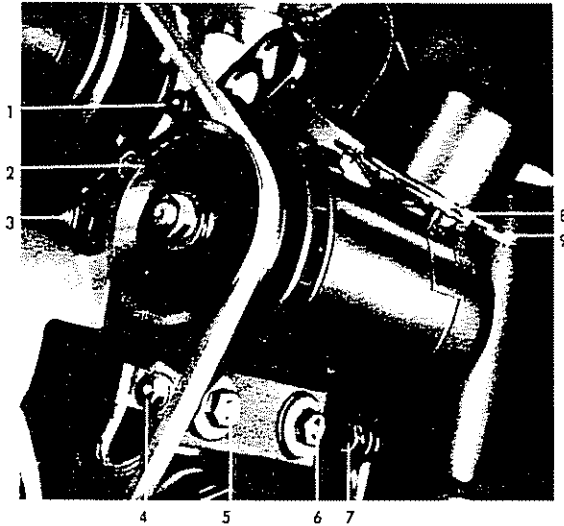

Fig 50-5/1
2. In order to adjust or re-tension the fan belt slightly slacken the fixing screws (4) and (7) on the generator bracket under the generator, the clamping screw (2) and the hexagon nut (3) (Fig. 50-5/1).
4. Tighten the fixing screws (4) and (7), the hexagon screw (2) and the hexagon nut (3) (Fig. 50-5/1).
and remove the screw. Slacken the fixing screws (4) and (7), the clamping screw (2) and the hexagon nut (3) (see Fig. 50-5/1), so that the generator can be moved toward the engine far enough for the belt to be easily removed and put on.